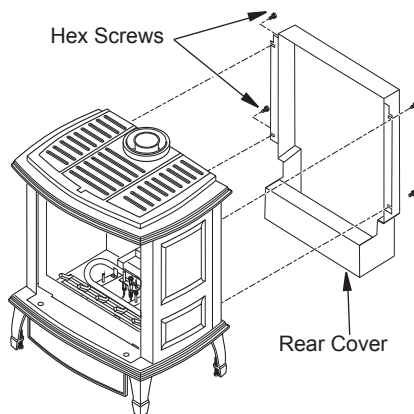

Figure 8 - Attaching Rear Cover and Bottom Cover from Stove Body
2. Using hex screws provided, attach rear cover to back of stove body. See Figure 8, page 8. **IMPORTANT:** This rear cover must be securely in place before venting pipes are installed.